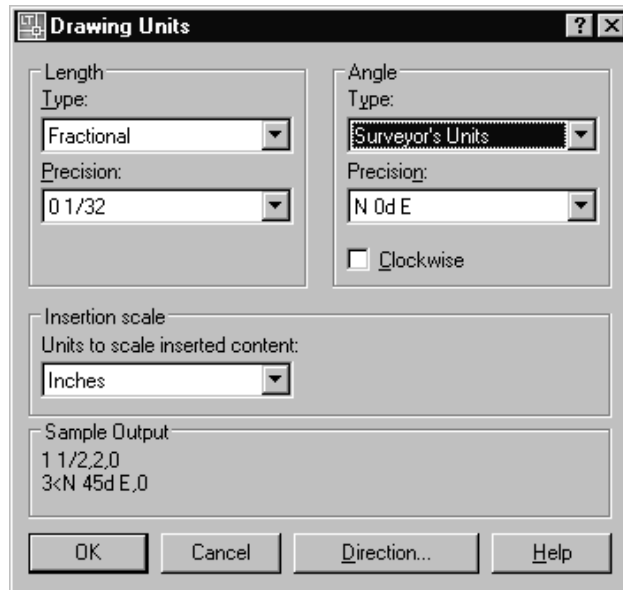

Figure 2-48 Setting units for Example 5 in the **Drawing Units** dialog box
2. In the **Length** area of the dialog box, select **Fractional** from the **Type** drop-down list. From the **Precision** drop-down list, select **0 1/32**, see Figure 2-48.